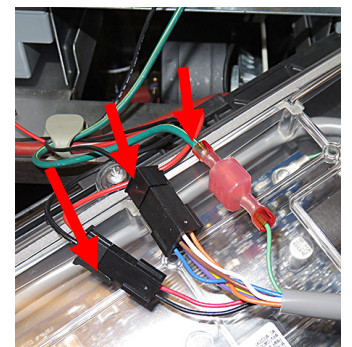

Figure 28
38. Locate and disconnect the current vat locator, speaker wire and ground wire from the rear of the controller (see Figure 28).